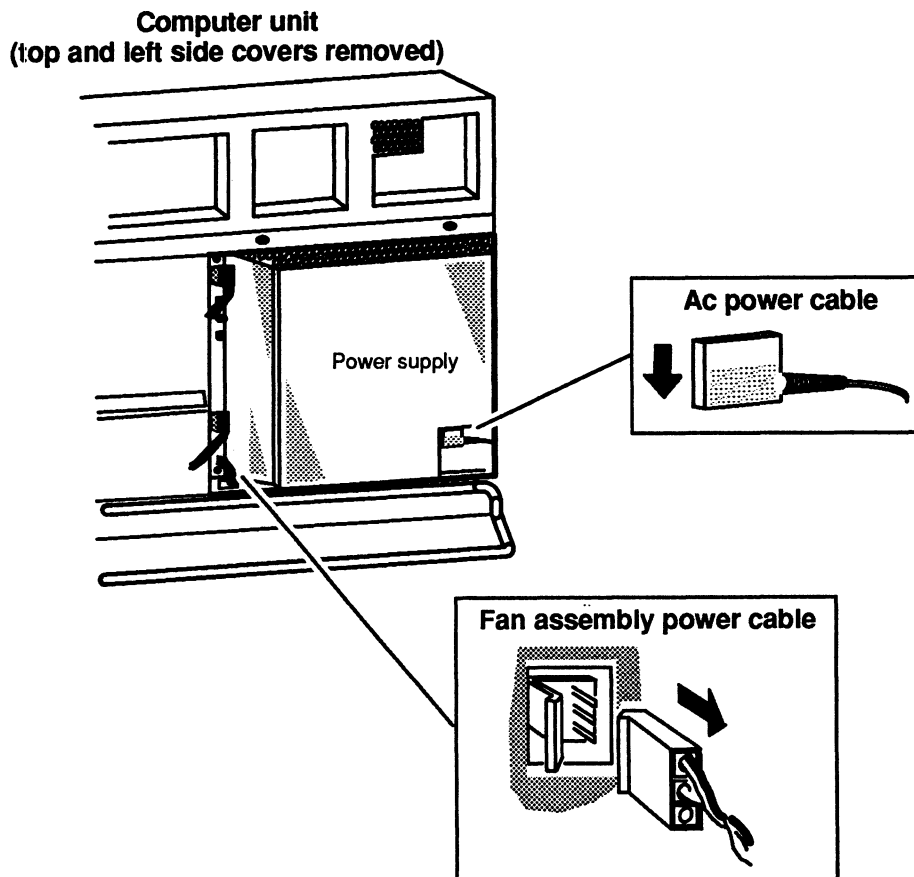

Figure 6-2 Unplugging the Ac Power and Fan Assembly Power Cables from the Power Supply
1. Unplug the ac power and fan assembly power cables from the power supply as shown in Figure 6-2.